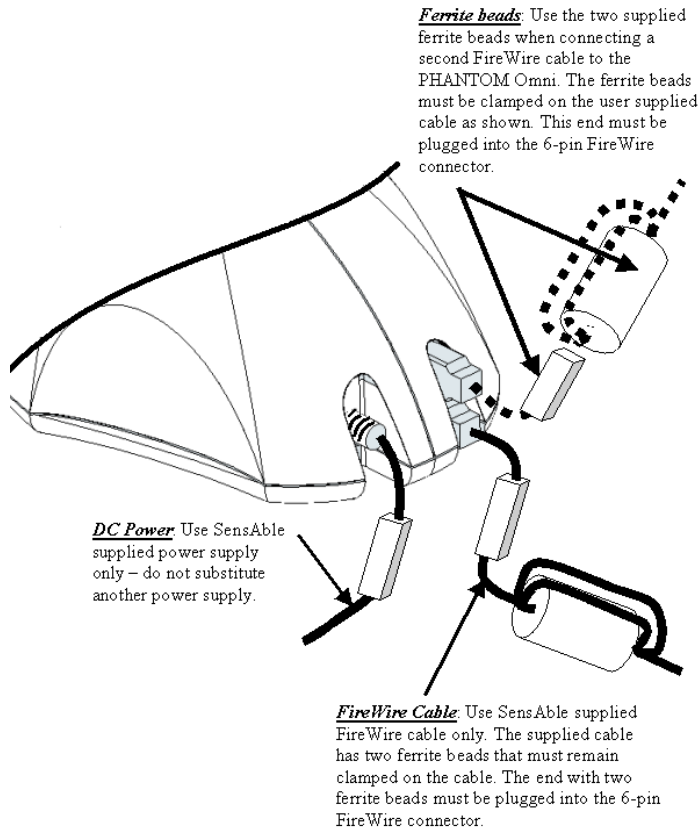

FIGURE 2-1. Back of the PHANTOM Omni device.
- Insert the round pin from the SensAble-supplied power supply into the back of the PHANTOM Omni device, as shown above in Figure 2-1. Do NOT substitute another power supply.
- a Connect the supplied FireWire cable into either of the two 6-pin FireWire ports on the back of the PHANTOM Omni device, as shown in Figure 2-1. Do NOT substitute another FireWire cable.